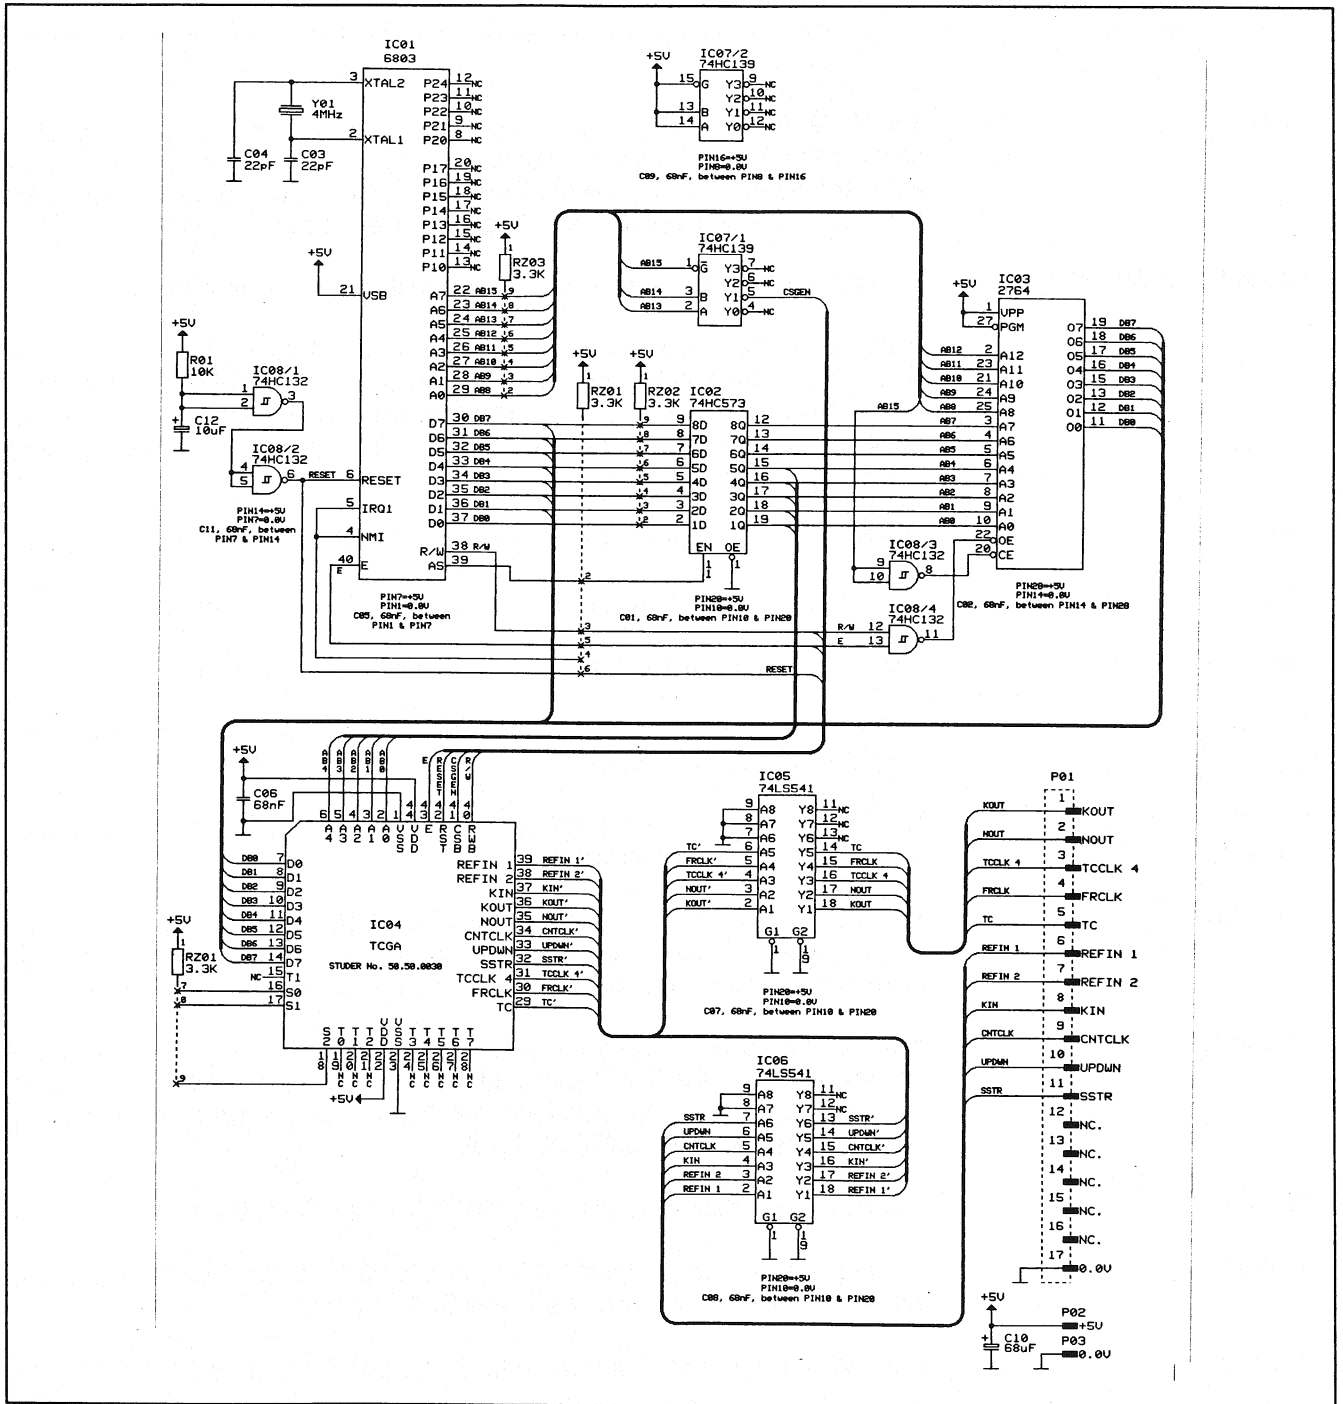

Fig. 3.: Application Example
The following code sample shows the initialization of the TCGA for a typical applicaton (see Fig. 3). The reference signal (200 kHz) will be applied to the input pin REFIN1.
* Define the TCGA Registers (see Fig. 3)